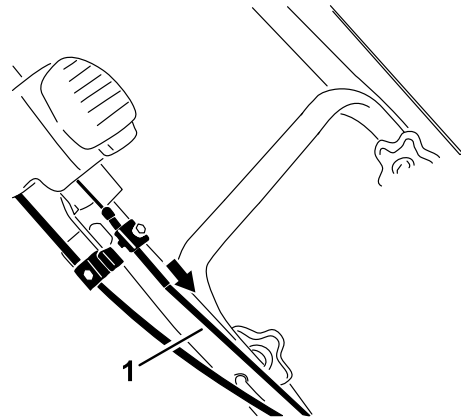

Figure 38
- Pull the upper cable casing forward until you remove the slack in the cable, and tighten the screw on the upper cable clamp securely (Figure 38).